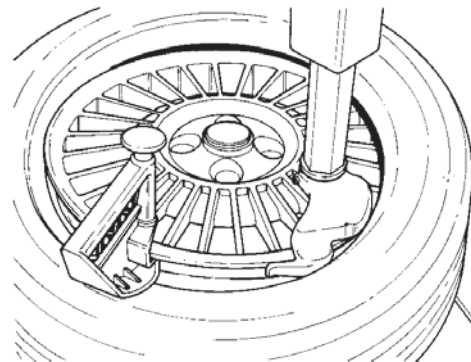

Fig.21
C. Mount the upper bead following the directions in section B. With low profile tires the bead holding clamp (option 66735 Fig.21) can help to prevent the top bead from prematurely seating during the mounting cycle.
**D.** Lift the tire with both hands so that the upper bead is sealed to the rim edge (Fig.21).